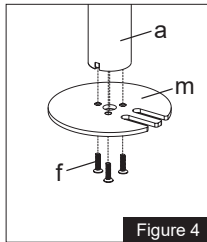

Figure 4
1. Install grommet base plate (**M**) to the pole (**A**) using x3 M5x14 bolts (**F**). See Figure 4.
2. Install the Grommet Base Plate (**M**) to the Pole (**A**) using x3 M5x14 Bolts (**F**), and tighten using the Allen Wrench (**O**), see Figure 4.